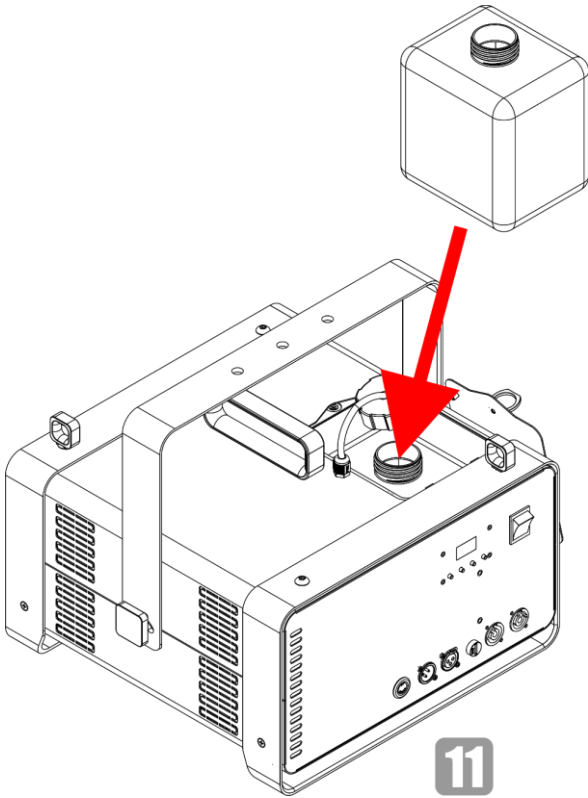

Fig. 17
- 11) Put the fluid tank back in the device, as shown in Fig. 17.